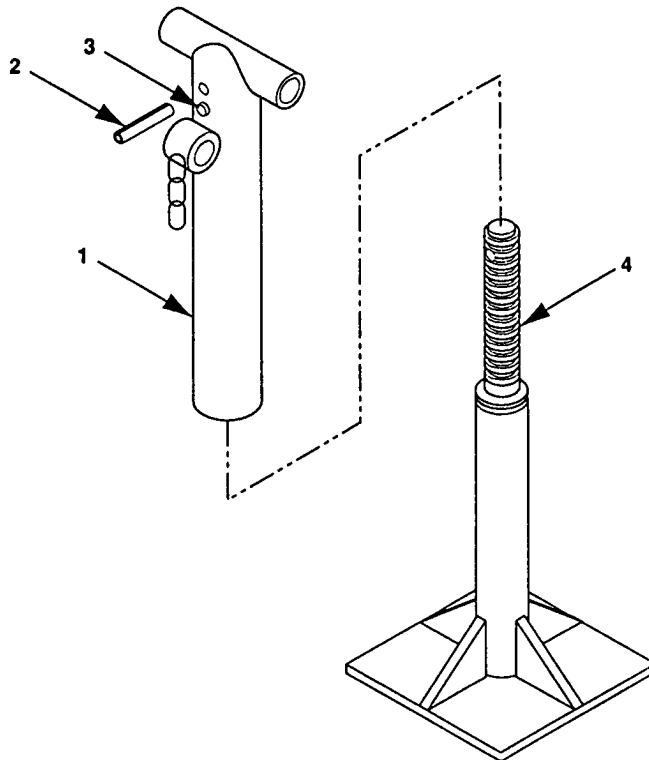

Figure 4-27. Leveling-Support Jack Repair, 1 Ton Trailer.
- a. Clamp leg assembly in a vise with spring pin (2, Figure 4-27) facing up.
- b. Drive the spring pin (2) out of upper leg (1) and remove leg base (4).
- c. If defective, remove lubrication fitting (3).